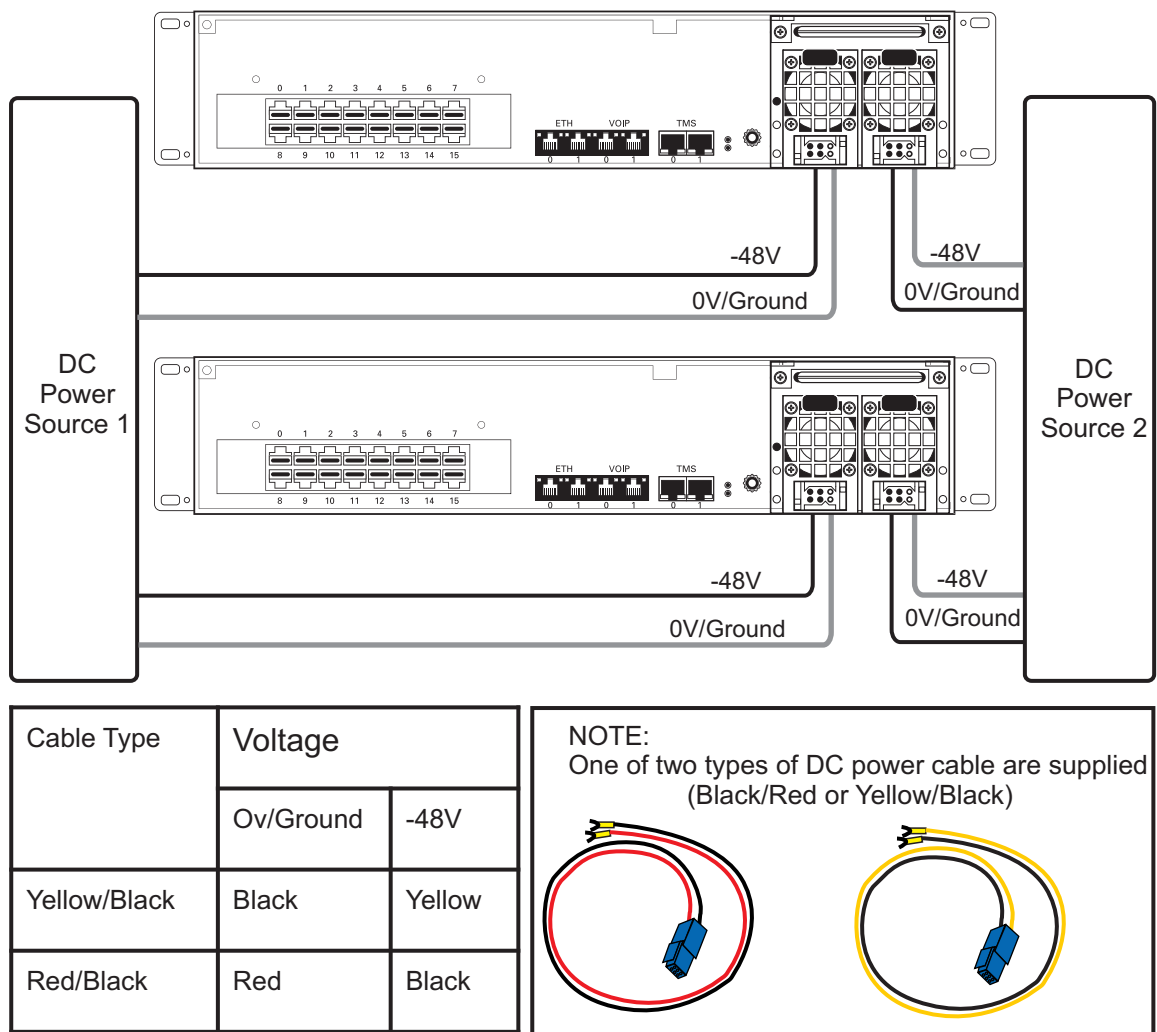

Figure 2.20 3200 Series and 3200 Series +1 DC Power Connections
1. Connect the first DC power connector of the 3200 series and 3200 series +1 units to DC power source one. See figure 2.20 on page 43.